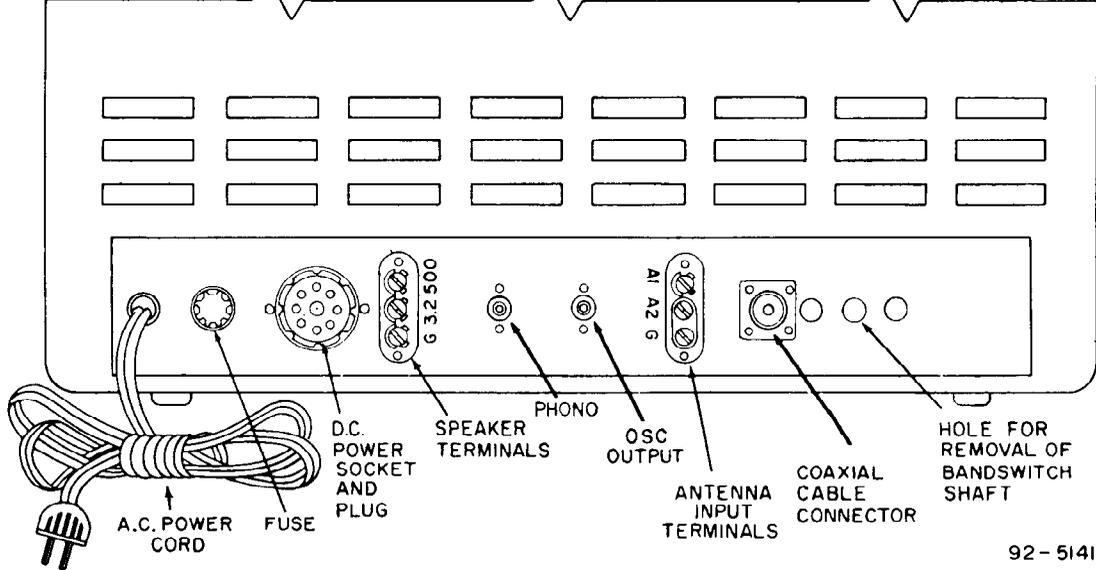

Figure 5. Rear View of Receiver
The receiver is designed to operate directly on 105 to 125 volt, 50-60 cycle AC current. Provision has also been made in the receiver for operation from an external DC power source for portable or emergency service in areas where AC power is not available. Connections to the DC source are made through the DC POWER SOCKET at the rear of the receiver. (See Fig. 5.)
**IMPORTANT:** The receiver will not operate from an AC source unless the JUMPER PLUG is inserted in the DC POWER SOCKET. (See Fig. 5.)
A three-terminal strip, marked "G", "3.2" and "500", is provided at the rear of the receiver for connecting the external speaker that is required with the receiver. (See Fig. 5.) Any permanent magnet speaker with a 3.2-ohm voice coil can be used by simply connecting the two leads from the speaker voice coil to the terminals marked "3.2" and "G". If it is desired to use a speaker with a voice coil impedance other than 3.2 ohms, a matching transformer should be employed to insure optimum performance. The transformer should be mounted on or near the speaker, and should have a 5-watt power rating, a 500-ohm primary impedance, and a secondary impedance to match the impedance of the speaker voice coil. Connect the primary of the transformer to the terminals marked "500" and "G" and the secondary to the speaker voice coil terminals.
A phono jack is provided at the rear of your receiver for attaching a record player. (See Fig. 5.) Any record player using a crystal cartridge - or a magnetic cartridge with suitable preamplifier - will provide satisfactory results. For phono operation, insert the pin-plug from the record player or preamplifier into the phono jack and set the **SELECTIVITY** control on the front panel at "PHONO". Adjust the **VOLUME** control for the desired volume level and set the **RESPONSE**
4 of the JUMPER PLUG located in the DC POWER SOCKET at the rear of the receiver. (See Figs. 5 and 7.) To operate the receiver with the remote switch, the RECEIVE-STANDBY switch on the front panel must be left at "STANDBY".